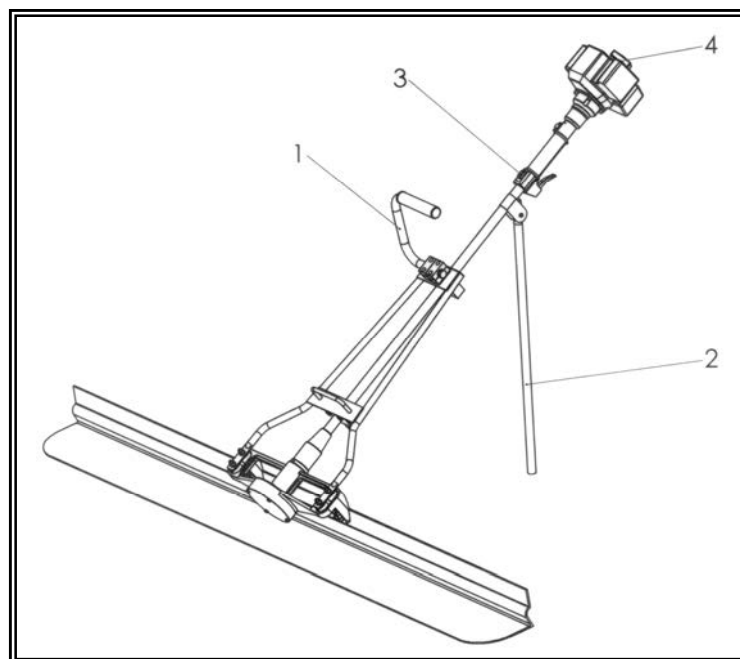

Fig.: 1.8-1
- 4.- Once the job is finished, stop the machine by changing the switch **Pos. 3** to the **OFF** position. (See fig: 1.8-1)